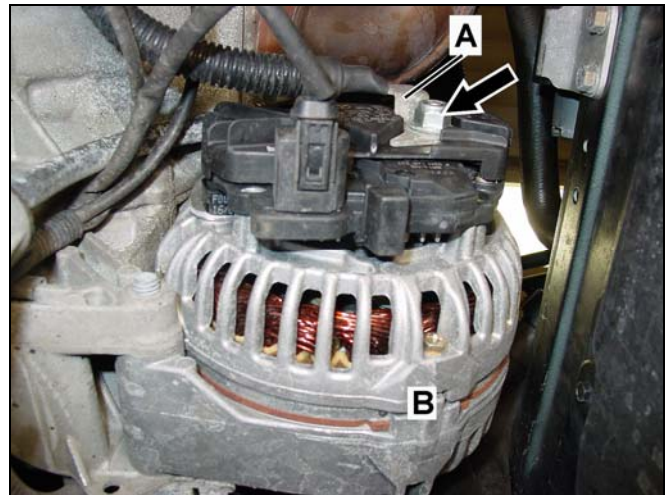

Figure 16
6. Remove nut (arrow, Figure 16) then remove circuit 30 harness connector (A) from terminal stud on alternator (B).